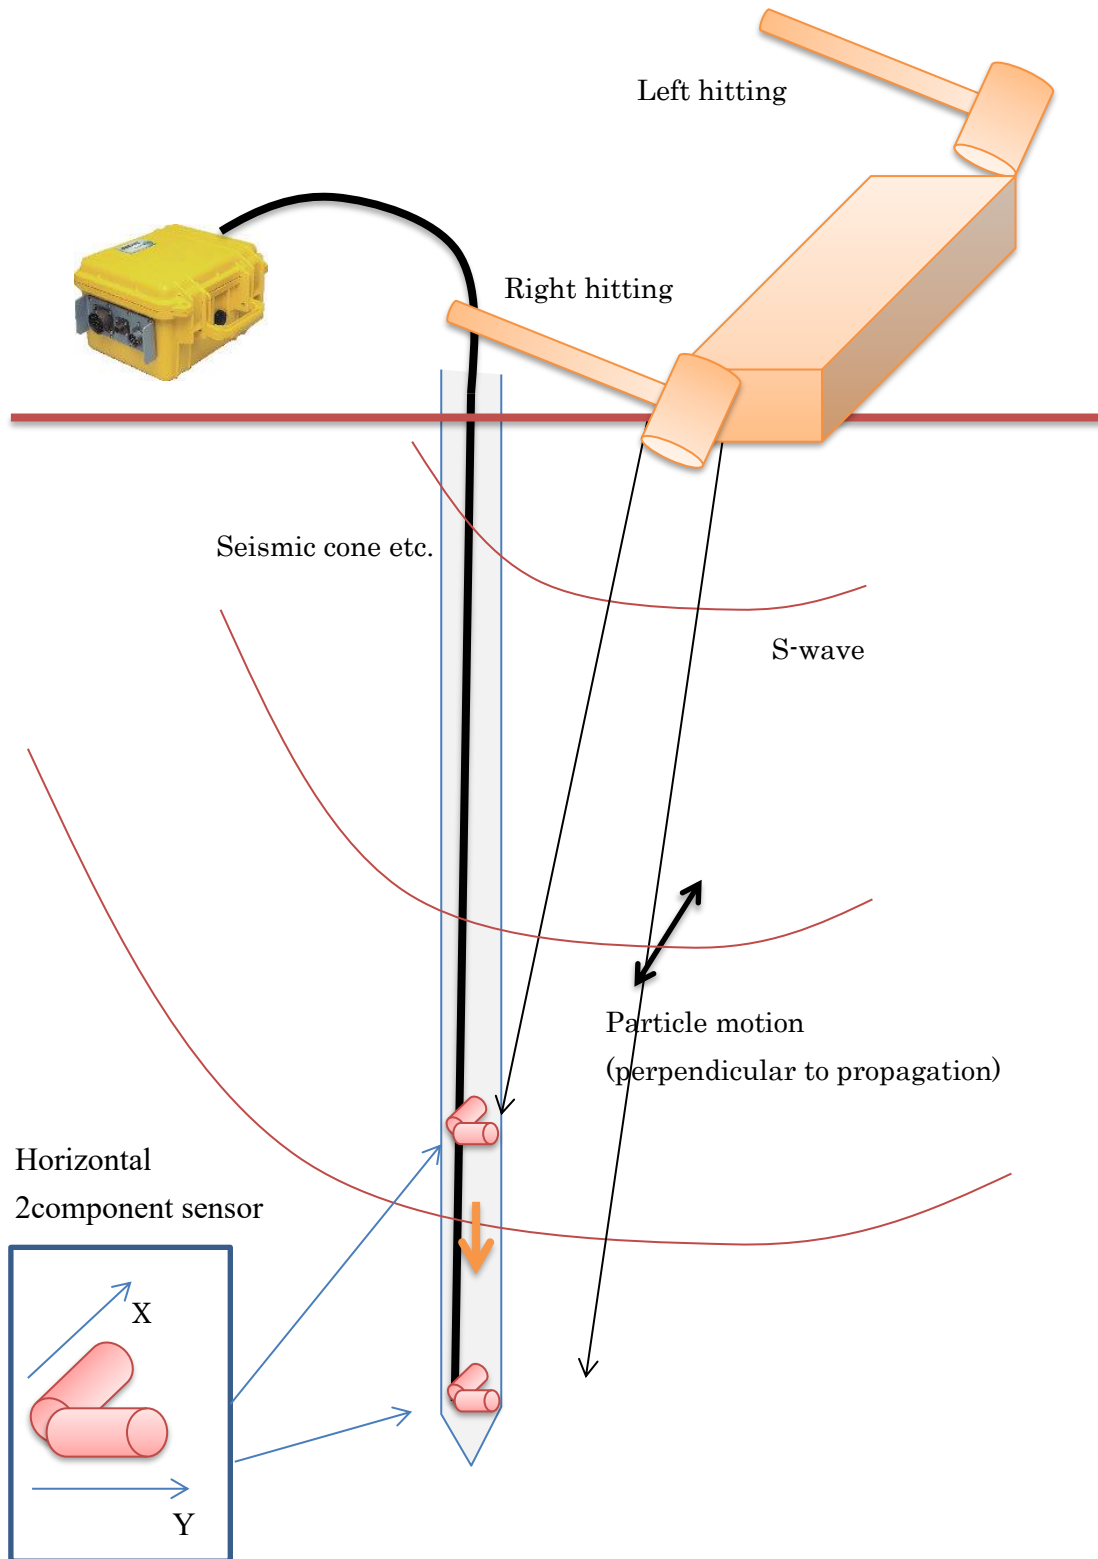

Figure 15. Data acquisition of S-wave using a multi-channel (double) receiver (strike opposite directions).
D) S-wave data using a multi-channel (double) receiver (Figure 15).
Downhole seismic test can be performed without a borehole using a cone penetrating probe. One or two sets of receivers are installed in the probe. Downhole seismic test using the cone penetrating probe is called a seismic cone test. Analysis using the cone probe with one set of receiver is same as procedure B) or C). It is recommended that one receiver is fixed on ground surface and used for monitoring shot time. If the cone probe has two sets of receivers (Figure 15), traveltime can be obtained as the difference of first arrivals. Traveltimes can be precisely determined and accurate shot time is not needed so that the receiver for shot time monitoring is not necessary.